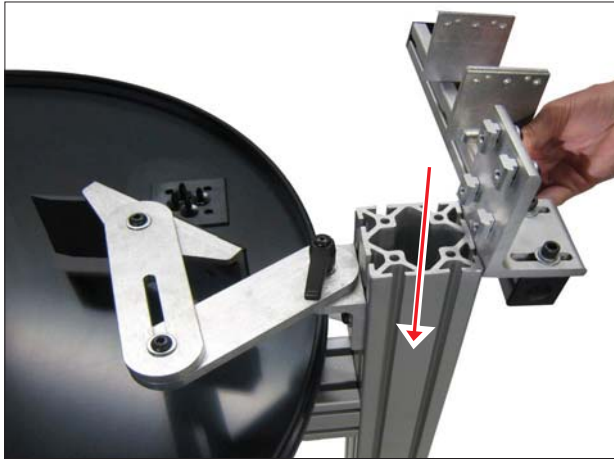
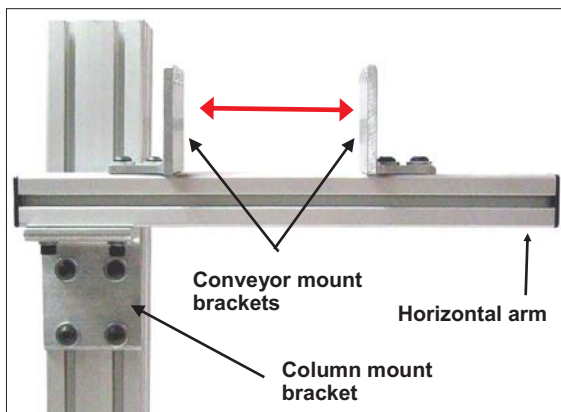

Fig. 12
Fig. 12a
1. With the horizontal brace in hand, slide the column mount bracket down the T-slots on the table's column as shown in Fig. 12 below. Lower the horizontal arm to the approximate height you want for the conveyor, per Fig 12a below, with final height and angle adjustments to be made in Section C, pg. 11.
2. Lower the conveyor between the loosened conveyor mount brackets (per Fig. 12a on pg. 10). Use only one (1) SHCS on each siderail, which allows conveyor rotation to the desired angle on the bracket. Fasten just finger tight for now; it can be tightened after attaching the arm-end of the swing-arm in Step 3 below.